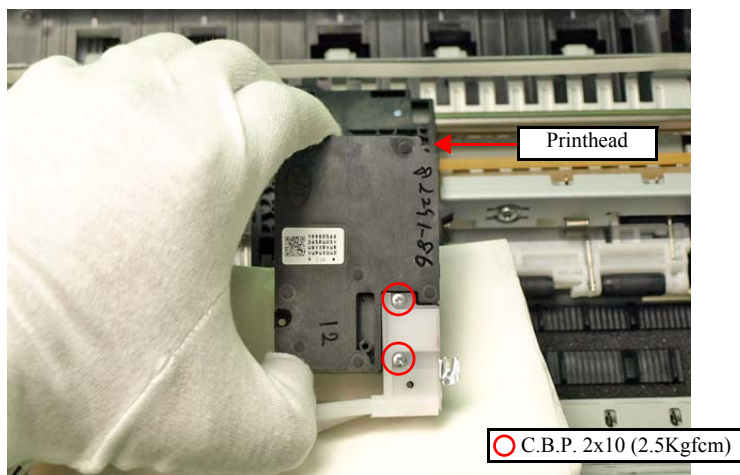

Figure 4-60. Removing the Printhead (3)
- Make sure not to touch the joint point of the Printhead and the Ink Supply Tube Assy. (See Fig. 4-60.)